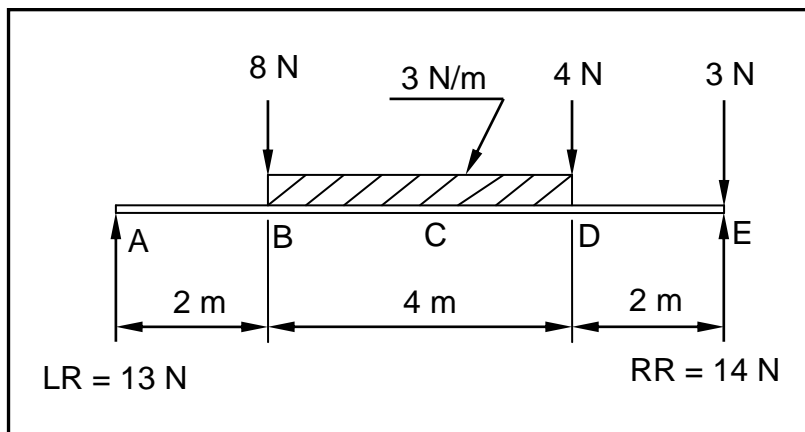

FIGURE 5.3
5.3 FIGURE 5.3 below shows the space diagram of a beam with a span of 8 metres with three point loads and a uniformly distributed load. Study the diagram and answer the questions that follow.
- 5.3.1 Deduce from FIGURE 5.3 the value of the shear forces and draw the shear force diagram on ANSWER SHEET 5.3. Use scale 2 mm = 1 N. (5)